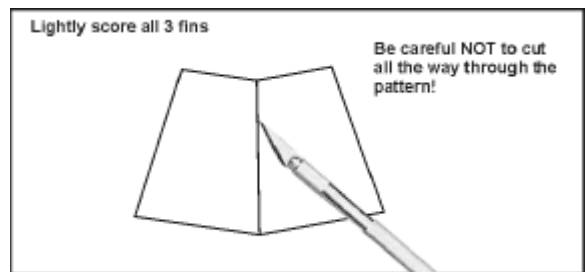

Figure 8
- Cut out all 3 Fins and all 3 Fin Inserts. Referring to **Figure 8**, lightly score the centerline on the printed side of each Fin pattern, being careful not to cut all the way through the pattern. Crease each Fin at this score line.